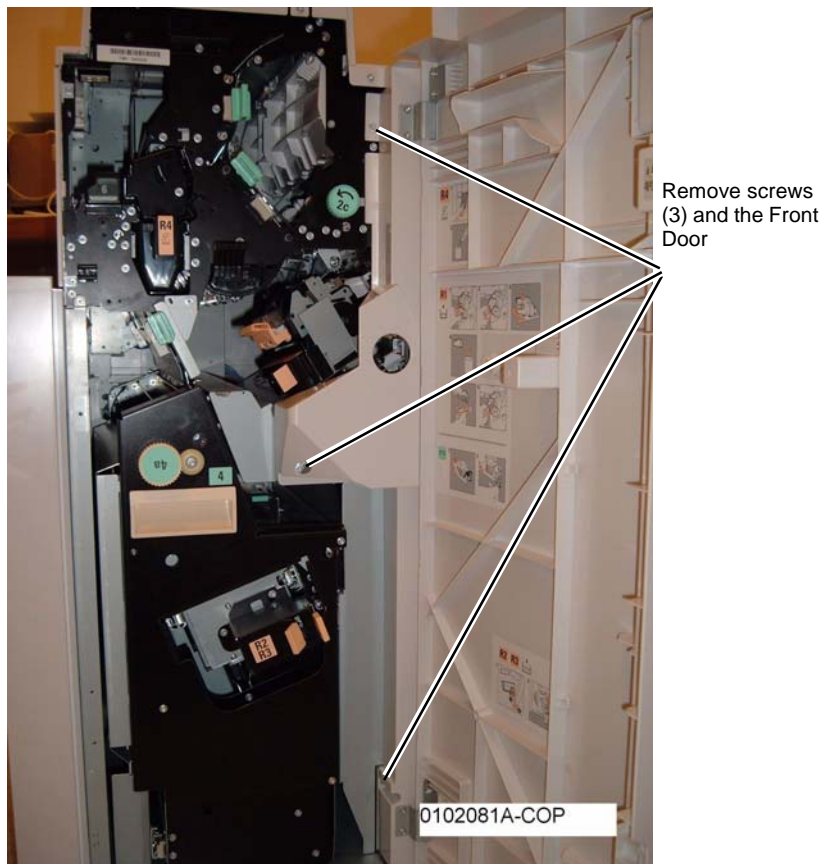

Figure 1 Removing the Front Door
4. Remove the Front Door (Figure 1).